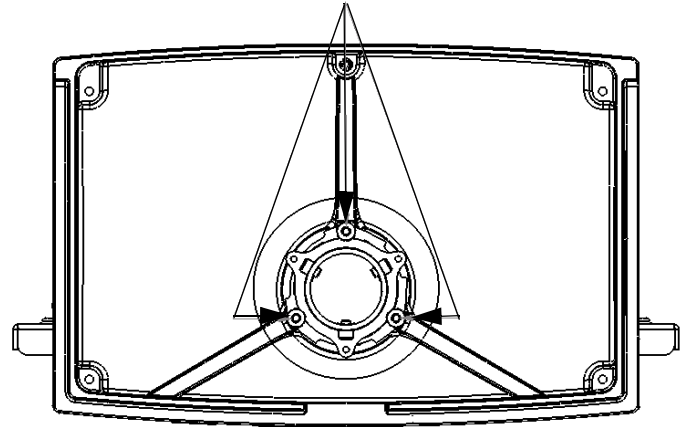

Figure 5. Tension Adjustment Screws
2. If tension adjustment is necessary, slightly tighten or loosen adjustment screws on stand assembly (see Figure 5).